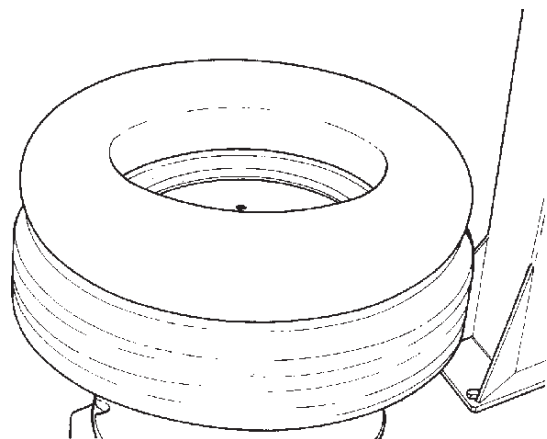

Fig. 5.1-1
B. Confirm that the tube is the correct size for the tire to be mounted. (Fig. 5.1-1).